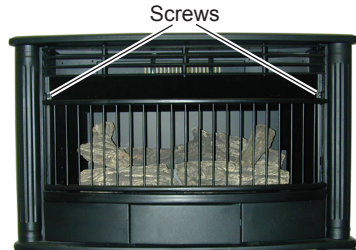
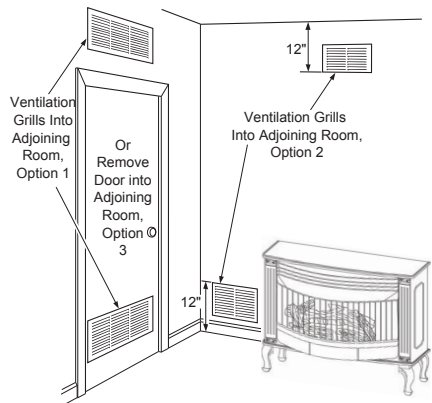

Figure 2 - Removing Screen
Figure 4 - Ventilation Air from Inside Building
6. Remove two screws in the upper corners of the screen (one on each side, see Figure 2). Lift and pull forward to remove.
This fresh air would come from an adjoining unconfined space. When ventilating to an adjoining unconfined space, you must provide two permanent openings: one within 12" of the ceiling and one within 12" of the floor on the wall connecting the two spaces (see options 1 and 2, Figure 2). You can also remove door into adjoining room (see option 3, Figure 4). Follow the *National Fuel Gas Code, ANSI Z223.1/NFPA 54, Air for Combustion and Ventilation* for required size of ventilation grills or ducts.